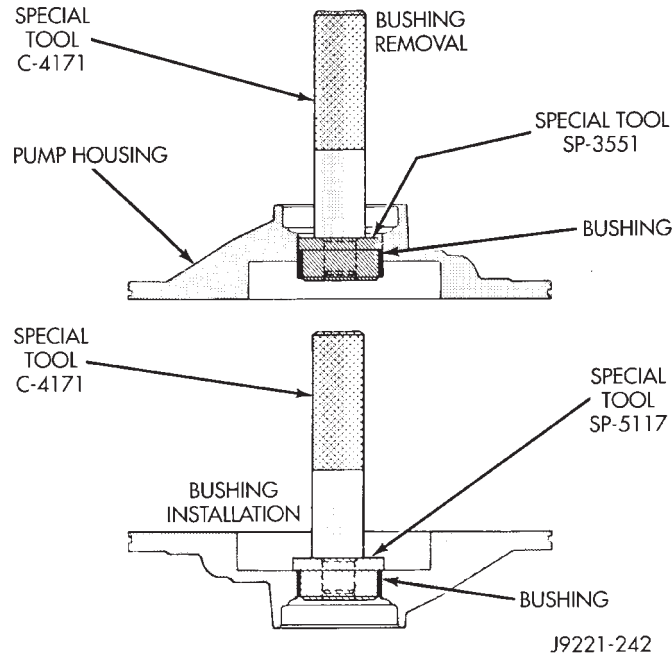

Fig. 126 Removing Oil Pump Bushing
- (1) Remove pump bushing with Tool Handle C-4171 and Bushing Remover SP-3551 from Tool Set C-3887-J (Fig. 126).
- (2) Install new pump bushing with Tool Handle C-4171 and Bushing Installer SP-5117 (Fig. 126). Bushing should be flush with pump housing bore.